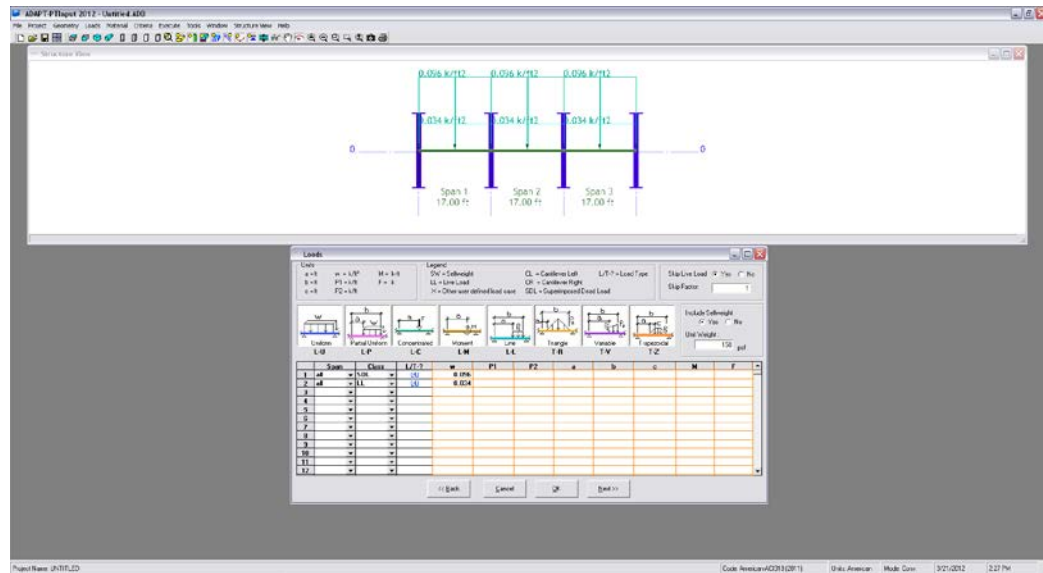

FIGURE 3.1-7
3.1.3.1 Edit the Loading Information (Fig. 3.1-7)